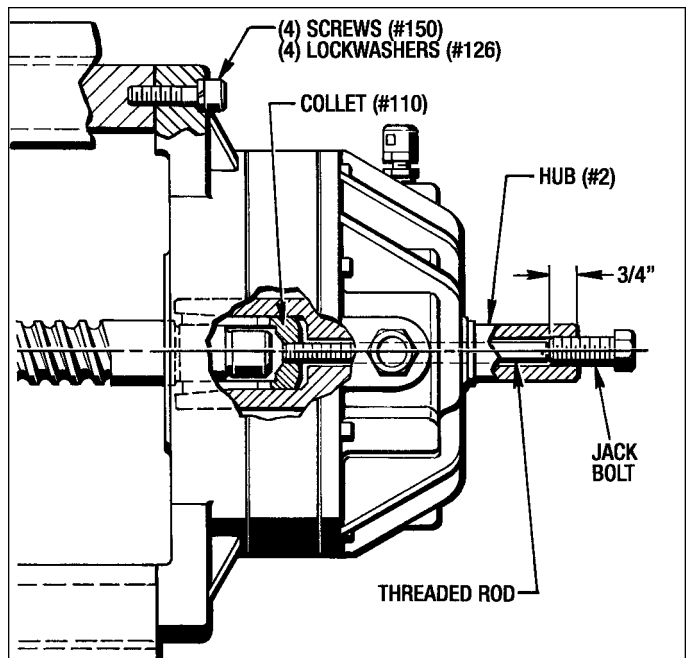

Figure 7.2 - Loosening Collet (#110) from Hub (#2)
7. Insert the Threaded Rod into the end of the Hub (#2) and thread it into the Collet (#110) with a flat head screw driver. Leave about 3/4" exposed thread inside the Hub extension (#2) as shown in *Figure 7.2*.
8. Screw the Jack Bolt into the Hub (#2) and tighten to release the Collet (#110) from the Hub (#2) bore. (See *Figure 7.2*)
10. Remove the (4) Screws (#150) and the (4) Lockwashers (#126)